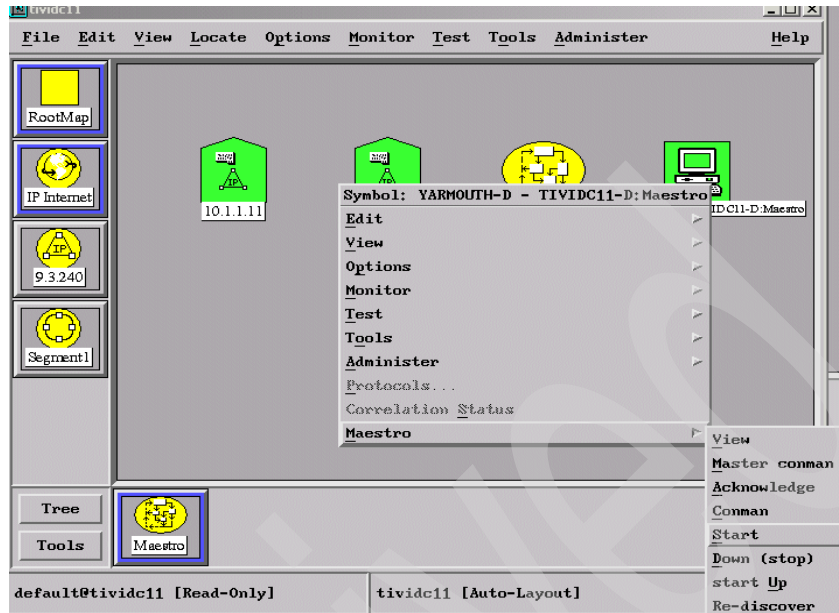

Figure 13-18 Issuing Start command
6. Select the **YARMOUTH-D-TIVIDC11-D:Maestro** icon with the third mouse button or right mouse button on a 2-button mouse and select **Start**, as shown in Figure 13-18 on page 643.